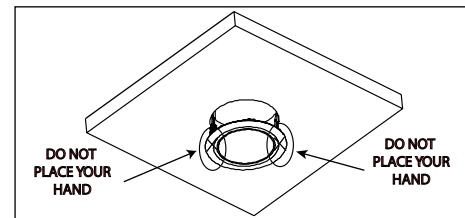

Figure 8 / Figura 8 / Schéma 8
■ DO NOT PLACE YOUR HAND UNDERNEATH SPRING CLIP DURING REMOVAL PROCESS. SNAPPING OF THE CLIPS CAN CAUSE INJURIES TO THE HAND. (Figure 8)